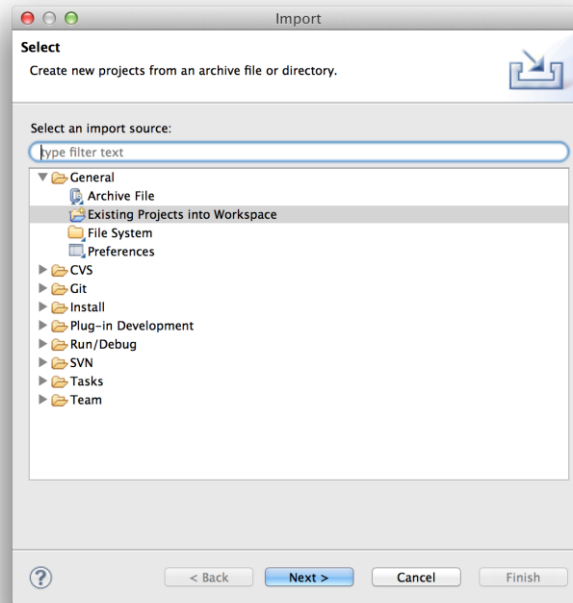

Figure 6 Import UML Project
| Figure 6 Import UML Project .....   | 8  |
1. Open the MERgE platform (or Eclipse) and select **File** → **Import**. Then select **General** → **Existing Projects into Workspace** and click **Next**. (see Figure 6 Import UML Project)